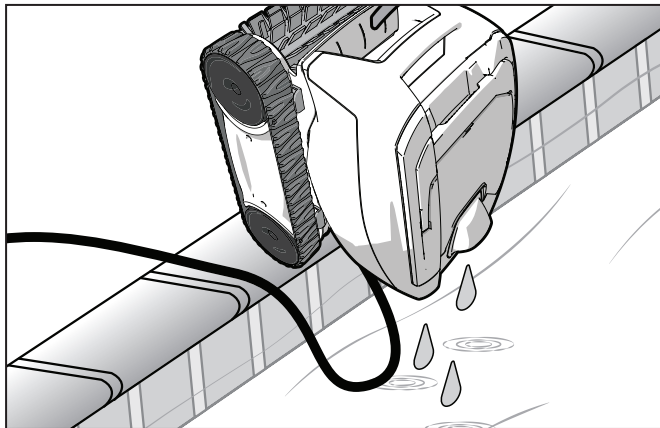

Figure 8. Drain Water from the Cleaner
3. Hold the cleaner vertically over the pool surface to drain water before removing (Figure 8).